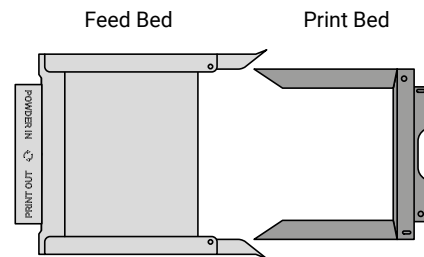

Fig. 8.3. The proper arrangement of the IO BOX, allowing the user to remove the finished printout.
6. Place the folded IO BOX inside the print chamber. Make sure its elements are arranged like in the picture (fig. 8.3.)